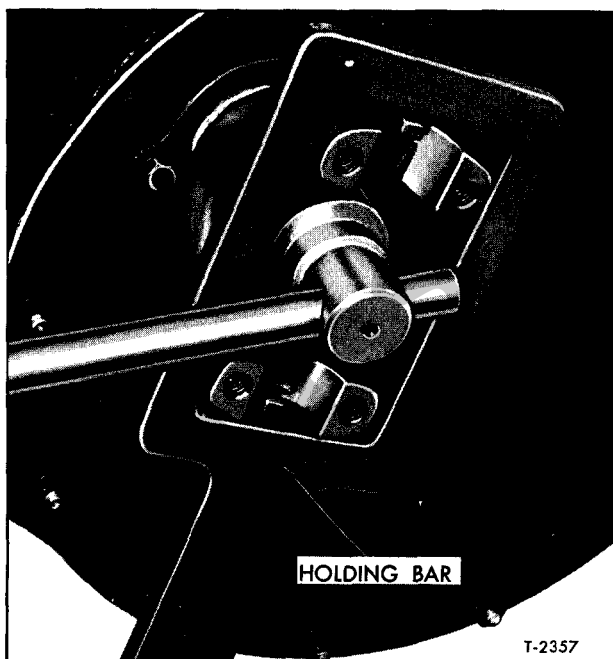
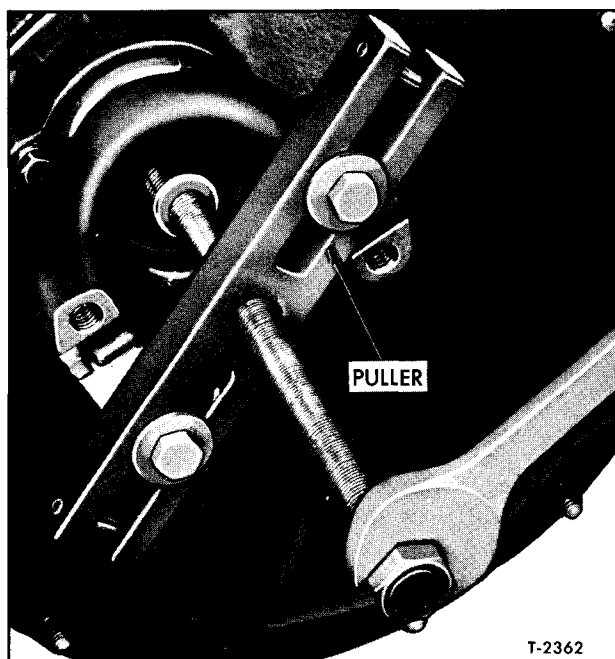

Figure 9—Propeller Shaft Yoke Holding Bar
Figure 10—Propeller Shaft Yoke Puller (Typical)
1. Remove yoke nut while holding yoke with J-3453 (fig. 9) and washer, then remove yoke using suitable puller (fig. 10). Remove bearing retaining washer.
8. Install bearing retaining washer, propeller shaft yoke, retaining washer, and nut. Tighten nut to recommended torque, using holding bar and socket wrench in manner illustrated in figure 9.